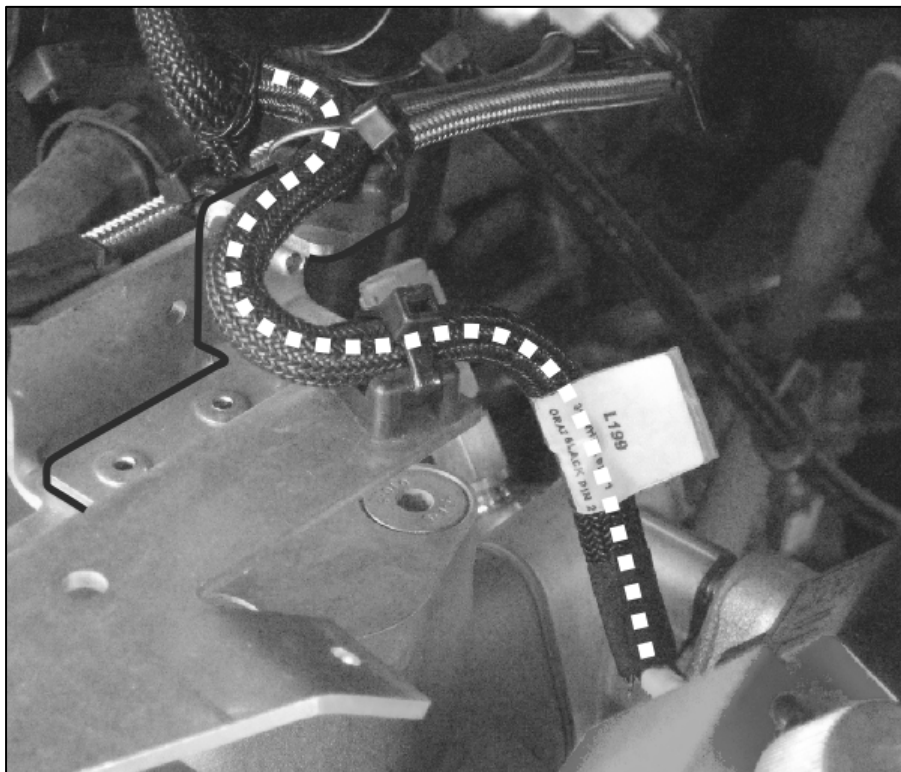

Figure 17
- 2.12.** On certain vehicles the cable support will not have reference holes. Four (4) new holes will need to be drilled. Use dimensions provided below. (Fig. 17)
Secure fitting assemblies with thread cutting screws 502848 (Fig 17)